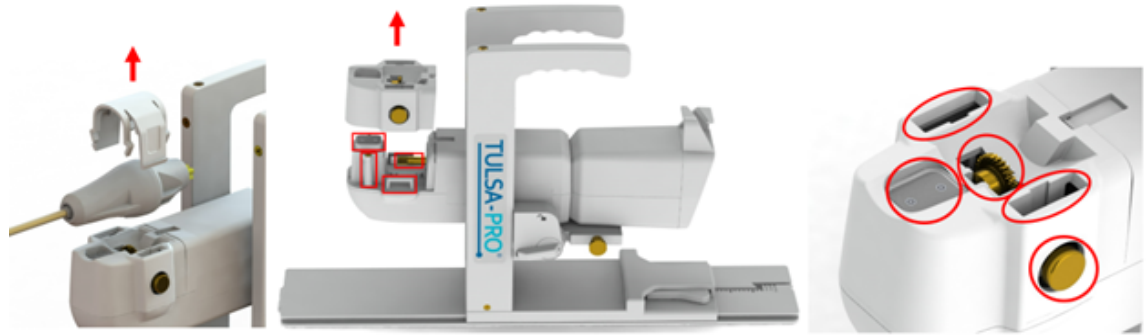

Figure 68: Inspecting the Positioning System
- c. Repeat steps 1 and 2 as necessary until no visible soiling remains, closely inspecting the areas around the gripper and gear (Figure 68).